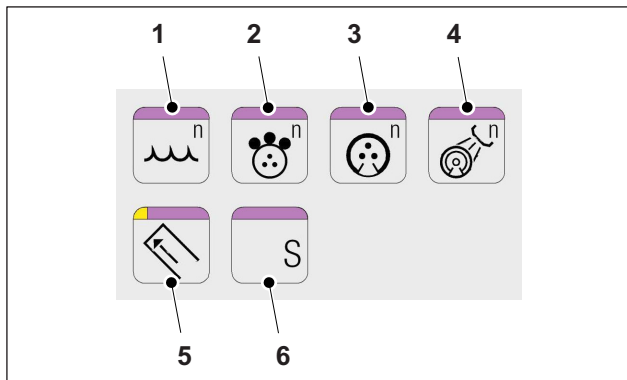

Fig. 26 Selector buttons
- Predampening (Fig. 26/1)
- Ink up plate (Fig. 26/2)
- Ink up blanket (Fig. 26/3)
- Blanket washup (Fig. 26/4)
- Eject printing plate (Fig. 26/5)
- Special functions (Fig. 26/6)